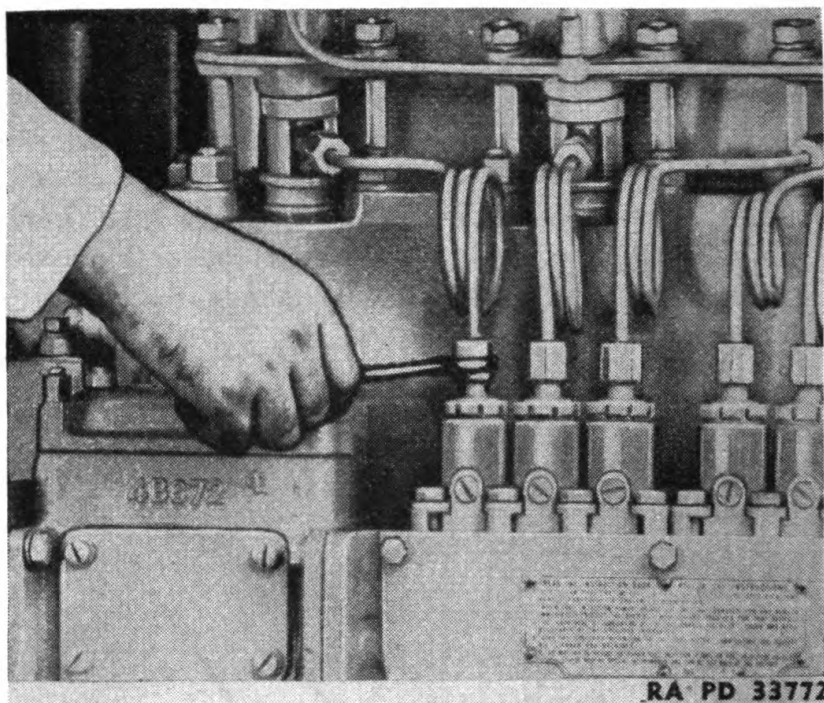

FIGURE 51.—Checking fuel injection equipment.
(1) With the engine running at a speed that makes the irregularity most pronounced, loosen fuel line nut (fig. 51) just above fuel pump sufficiently to “cut-out” the cylinder. Check each cylinder in the same manner. If one is found where loosening makes no difference in the operation of the engine, probably the valve and pump on that cylinder only need be tested.
(2) Irregular engine operation and smoking may be caused by a faulty injection valve. Hard starting and irregular operation may be the result of a weak pump not supplying sufficient fuel.